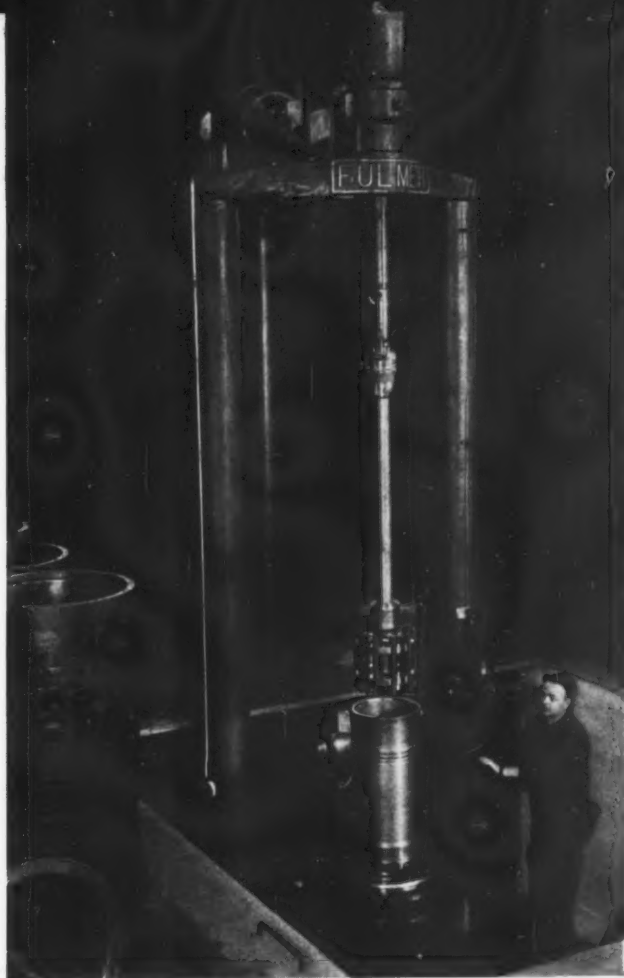

Fig. 5—Above—Large locomotive diesel-engine cylinder liners being finish honed on a vertical machine
A variety of standard and special honing machines are available in either the vertical or the horizontal models. Verticals are used on work up to 6 or 7 feet in length and up to 30 inches in diameter, Fig. 5. Largest vertical built has a stroke of 8 feet and is capable of finishing diameters up to 30 inches by 90
C. Allen Fulmer Co. (Figs. 5, 11, and 12) Cincinnati, Ohio